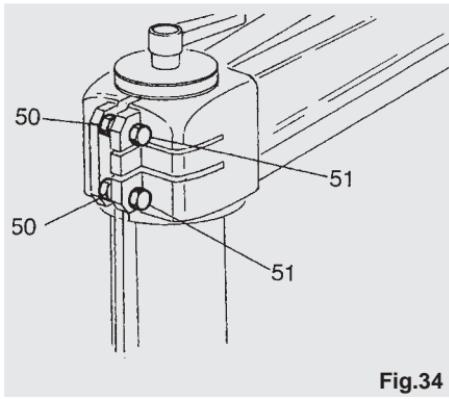

Fig.34
On account the continual rotation of the arm, some play can form in the coupling with the vertical pillar. In that case refer to figure 34. Loosen the two internal lock nuts (50) and tighten the two screws (51) until the play is eliminated.